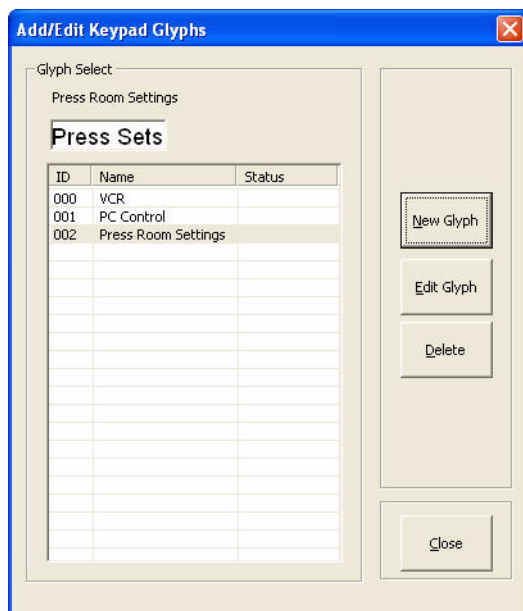

FIG. 11 Add and Edit Keypad Glyphs
1. With a KeypadBuilder project open, click **Complex-Script Glyphs** from the navigation pane. This invokes the *Add/Edit Keypad Glyphs* dialog (FIG. 11).